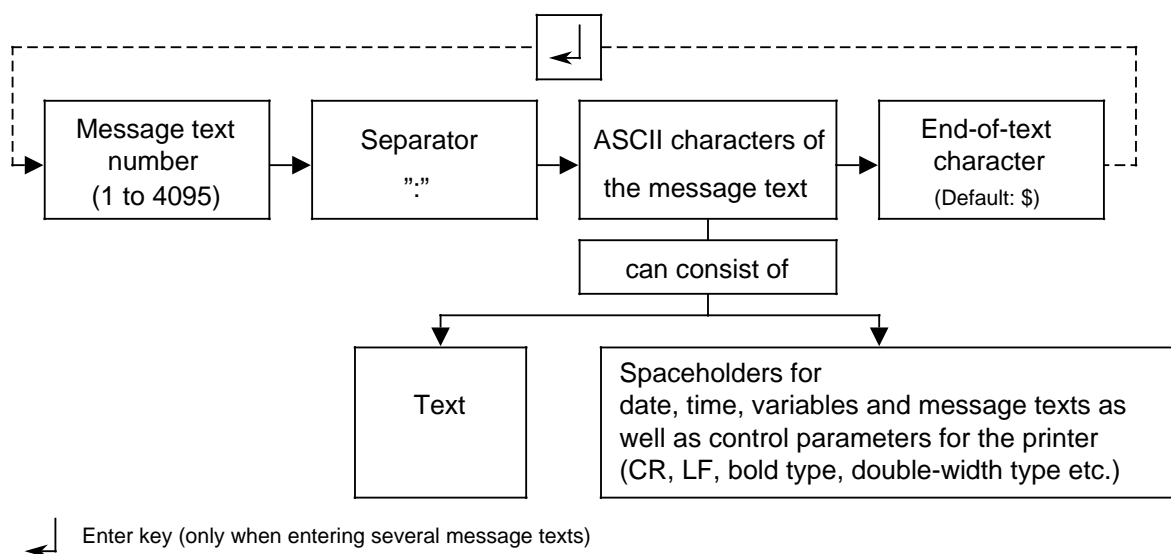

Figure 6-4. Structure of a Message Text
- The message texts within a DB should be continuous. Your message texts will be clearer if you separate the message texts from each other by pressing the enter key (Figure 6-4).